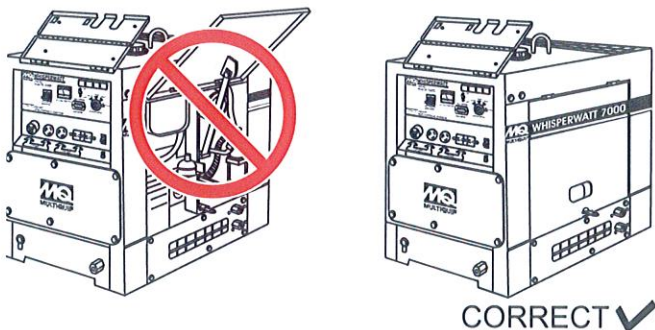

Figure 15. Generator Doors
2. **NEVER** operate the generator with the doors **open** (Figure 15). Operation with the doors open may cause insufficient cooling of the unit, and engine damage may result. Close the doors for normal operation.